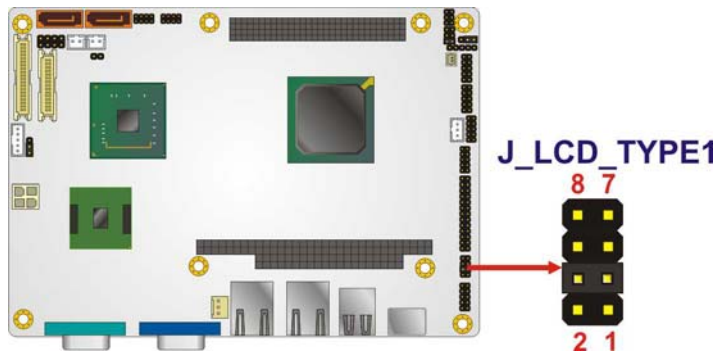

Figure 4-6:LVDS Panel Resolution Jumper Pinout Locations
- Jumper Location:** See Figure 4-6
The LVDS Panel Resolution jumper location is shown in **Figure 4-6**.